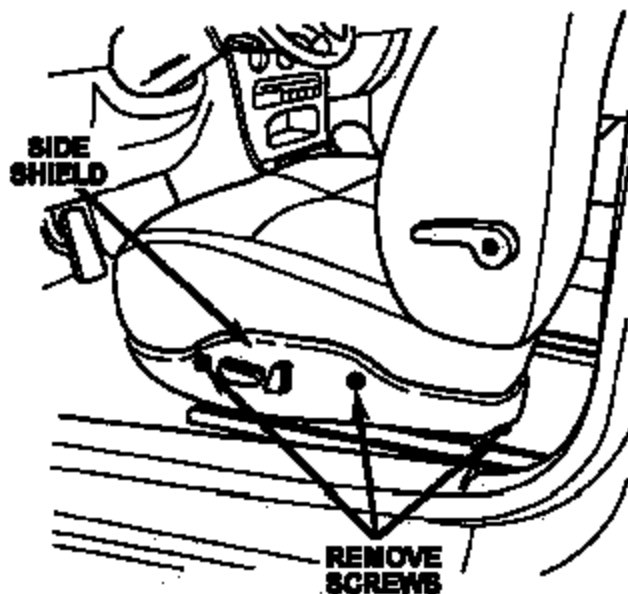

Figure 1
3. Remove the two side screws (power only) and the rear screw (all) from the seat side shield and then rotate the shield away from the rear of the seat (Figure 1).